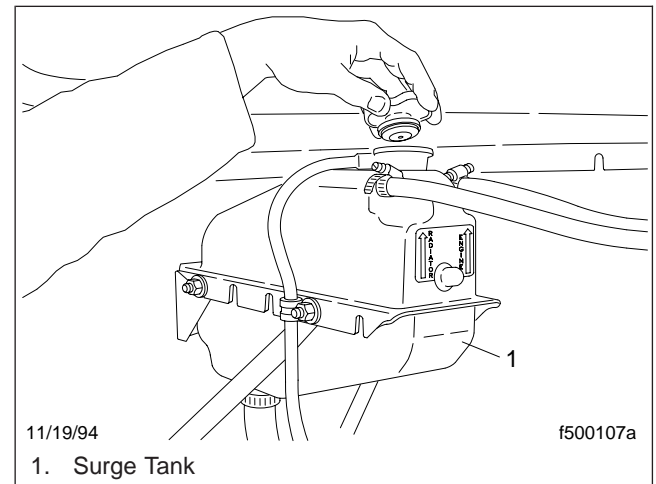

Fig. 1, Surge Tank and Cap
- 1.1 Remove the surge tank cap. See Fig. 1.
When checking wheel nuts on a dual disc assembly, remove one outer nut at a time, tighten the inner nut, then reinstall the outer nut. Repeat this procedure for all of the inner wheel nuts in the sequence shown in Fig. 1, then tighten all of the outer wheel nuts in the same sequence.